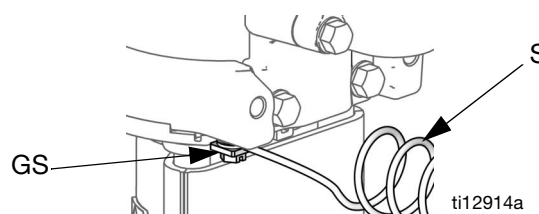

FIG. 2. Ground screw and wire
1. Pump: See FIG. 2. Verify that the ground screw (GS) is attached and tightened securely to the air motor. Connect the other end of the ground wire (S) to a true earth ground.